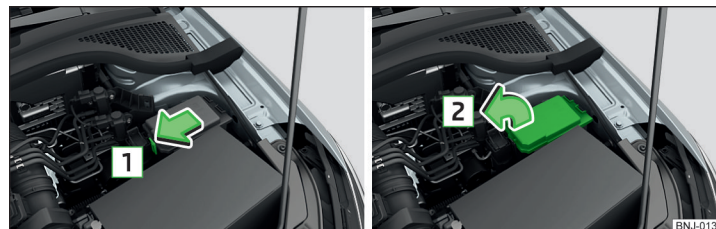

Fig. 293 Remove the cover
- Press together the lock buttons of the cover simultaneously in the direction of arrow **1** and remove the cover in the direction of arrow **2** » Fig. 293.